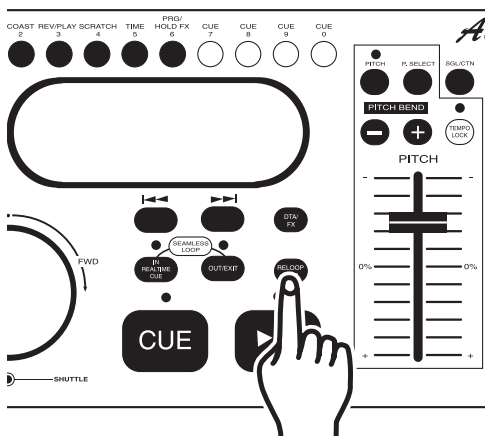

Figure 33
- 3) Now tap the *RELOOP/BOP BUTTON* (30). It will produce a stutter effect as quickly as you tap on the *RELOOP/BOP BUTTON* (30). See Figure 33.